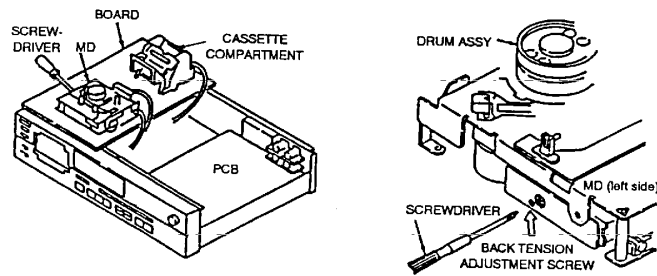

Figure 2
1. Remove the mechanical deck and the cassette compartment from the unit and separate the two assemblies. Place the two assemblies on a board without disconnecting any electrical connections (see Figure 2).